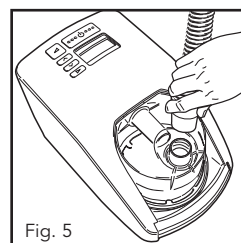
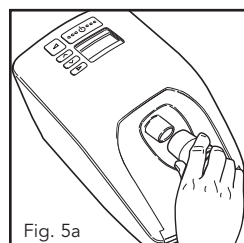

Fig. 5
Fig. 5a
4. One end of the tube has a white plastic connector. Push this onto the outlet on top of the chamber (Fig. 5) or CPAP outlet (Fig. 5a).